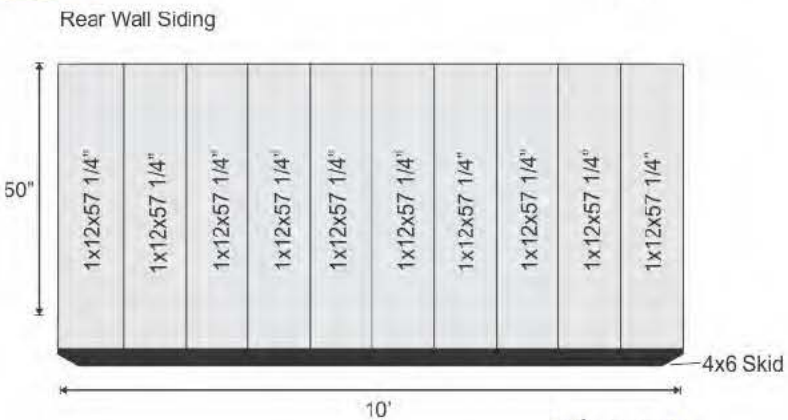

Figure 2
Step 2. Set the siding to hang below rim joists a 1/4" to ensure water drainage. Figure 2.